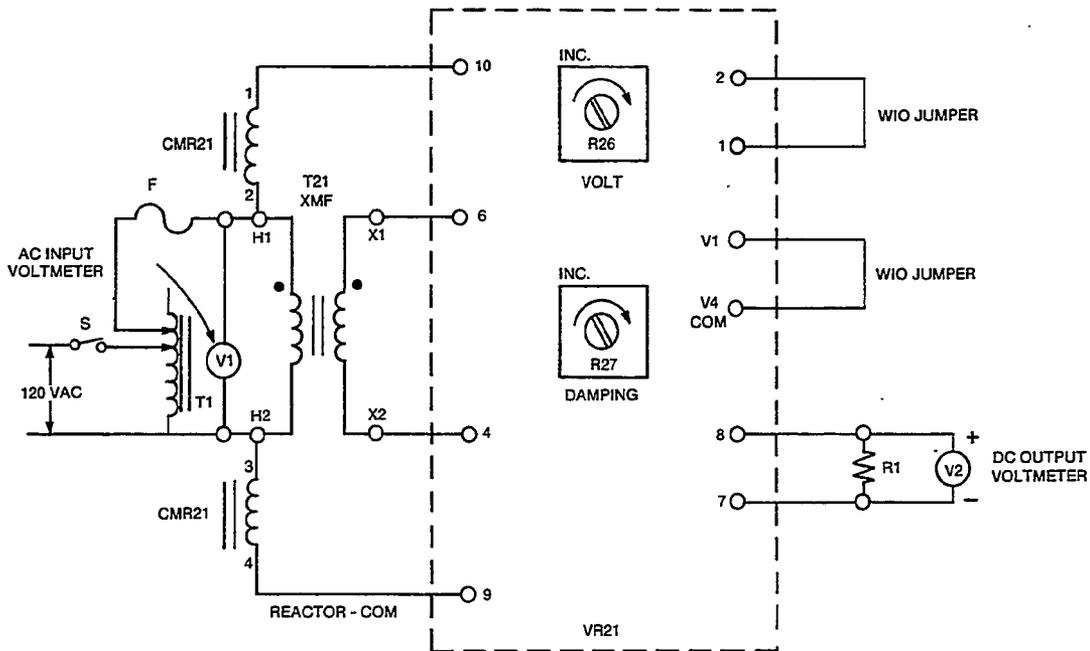

FIGURE 5. VOLTAGE REGULATOR CHECKOUT TEST EQUIPMENT CONNECTIONS
2. With unit running at no load, turn generator voltage potentiometer R26 on VR21 (Figure 5) clockwise to increase output voltage; turn R26 counterclockwise to decrease output voltage.
1. With generator set running at no load, turn potentiometer R27 (Figure 5) to a position where voltage tends to be unstable or hunt.
2. Referring to Figure 5 and Table 1, connect test equipment to the printed circuit board VR21 terminals as follows: